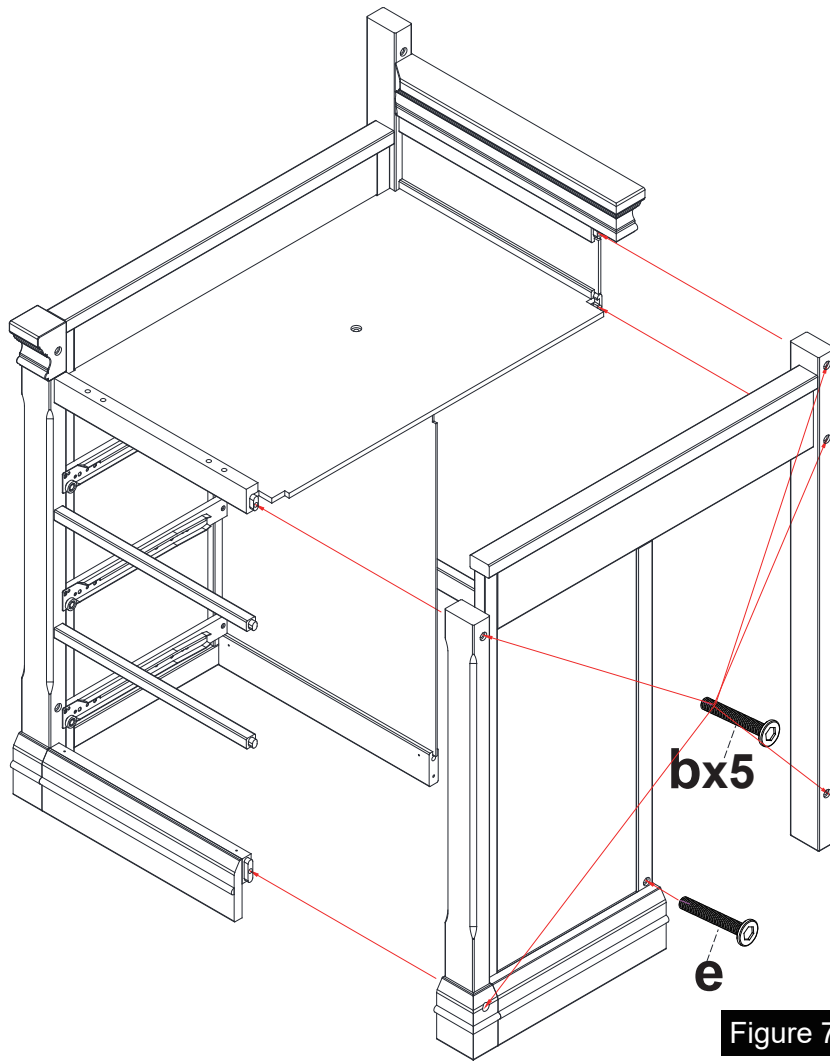

Figure 7
STEP 7 ASSEMBLY OF RIGHT FRAME AS SHOWN ON FIGURE 7.